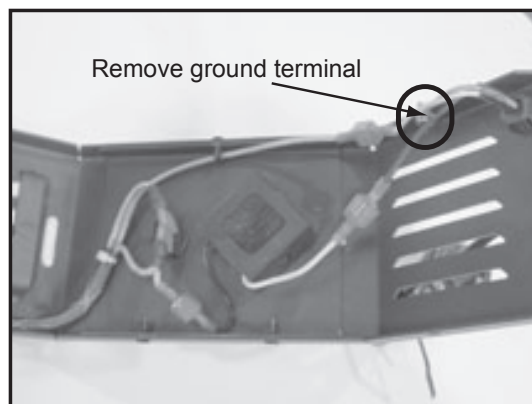

Figure 42.1
2. Remove the green ground terminal from the housing by using a 11/32 inch wrench and Phillips head screwdriver. **Figure 42.1.**